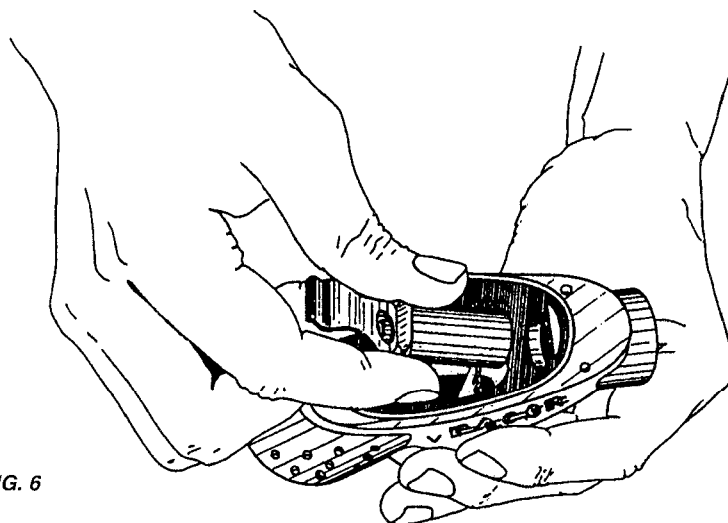

FIG. 6
12. Correctly insert the demand lever connector (91) in the seat of the second stage case (32). (Fig. 6)
CAREFULLY CHECK THAT THE DEMAND LEVER CONNECTOR IS CORRECTLY POSITIONED AND ORIENTED INSIDE ITS SEAT IN THE 2ND STAGE CASE. (FIG. 6)